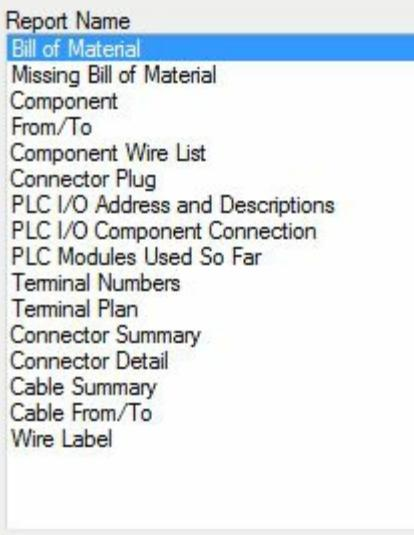

Figure-3. Report Name box
- We have a big list of report types in the **Report Name** selection box at the left; refer to Figure-3. Select the desired report type from the selection box, the options in the dialog box will be modified accordingly.